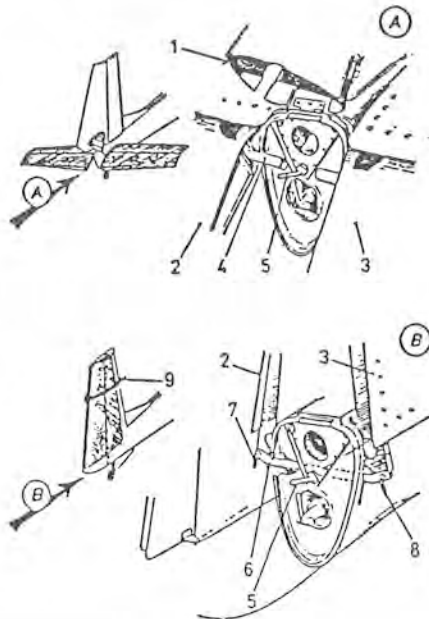

Fig. 4-2
The horizontal tail unit control surfaces can be folded upwards for sailplane transportation. (see Fig. 4-2, det.B)
Unlock and take out the middle securing pin (see Fig.4-2, item 5) which secures the position of both tail unit control horizontal surfaces. The hinged portion of the fuselage tail can be set back, the rudder set in its neutral position and horizontal tail unit control surfaces folded upwards. When folding these surfaces, care should be taken to not damage the hinged part of the fuselage end. This can be prevented by proper deflection of both halves of the elevator.
When folding the tail unit control surfaces upwards, the elevator control countershaft takes place automatically (see Fig.4-2, item 4).
The tail unit surfaces shall be secured in their folded vertical position by a horizontal tail unit surface securing strut or both surfaces may be secured by a securing strap (see Fig.4-2, item 9). The latter shall be inserted into the cut out in the fuselage in front of the bulkhead 15 and secured in the middle by means of the pin, which can be removed from the hole in bulkhead No. 15 (see Fig.4-2, det. B). The pin shall be secured with a safety pin. Extended parts of the tailplane spars shall be inserted into the clevises on both ends of the strut and secured with pins. The latter shall be locked with safety pins.
See Fig. 4-2)
Two men to hold the tail unit surfaces in the vertical position, the third - having folded the fuselage tail portion upwards - unlocks and removes 3 pins (Fig.4-2, item 5, 7, 8) and then the strut.